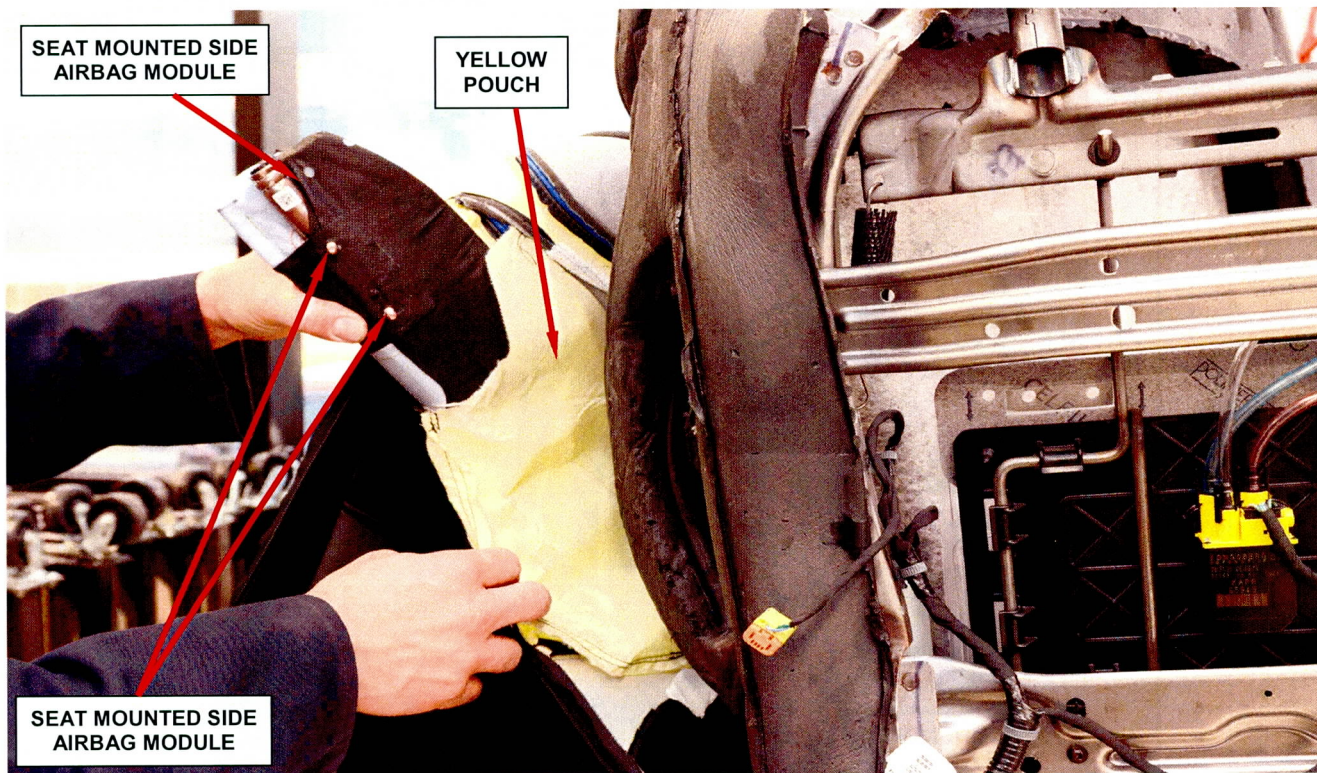

Figure 9 – Insert Seat Mounted Side Airbag Module into Yellow Pouch
23. Place the seat mounted side airbag module into the yellow pouch (Figure 9).